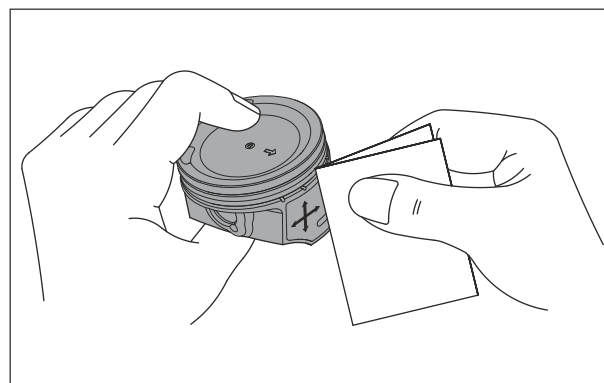

Fig. 3.90
- If a piston sliding surface is badly scored or scuffed due to overheating, it must be replaced. Shallow grooves or minor scuff can be removed by smoothening with a fine emery paper (400 grade). (Fig. 3.90) Inspect the piston for damage or crack. Replace if required.